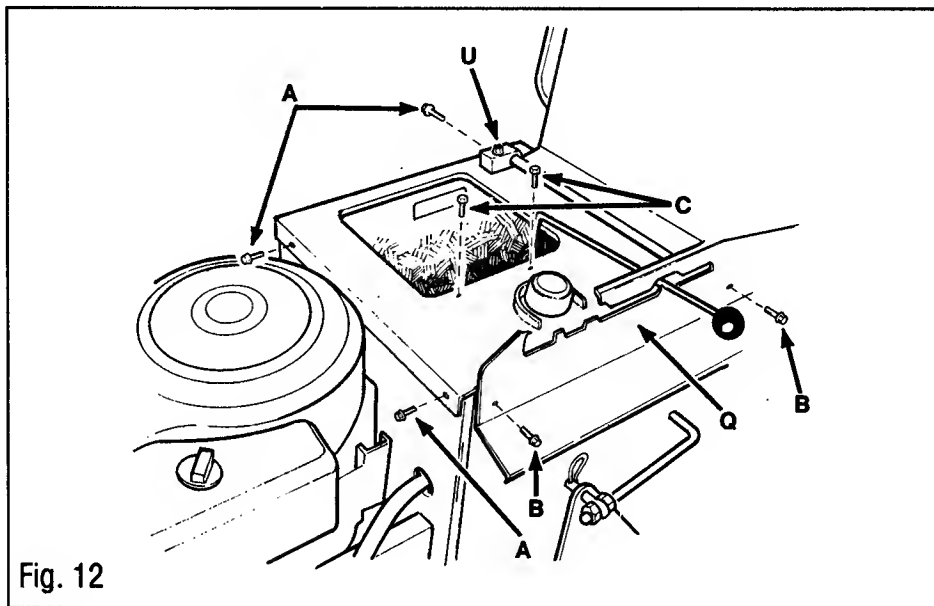

Fig. 12
3. Remove screws (B, Fig. 12) and remove shift quadrant.
5. Remove screws (U) and pull seat support from seat support cover.
6. Remove remaining 3 screws (A) securing seat support cover. Remove 2 screws (C) securing gas tank to seat support cover. Remove seat support cover.
1. Position seat support cover in position as shown in Fig. 12. Thread 2 screws (C) into gas tank, but do not tighten. Thread screws (A) into the sides of seat support cover. Tighten all hardware.
2. Position seat support on seat support cover as shown in Fig. 12. Secure seat support with screws (U).